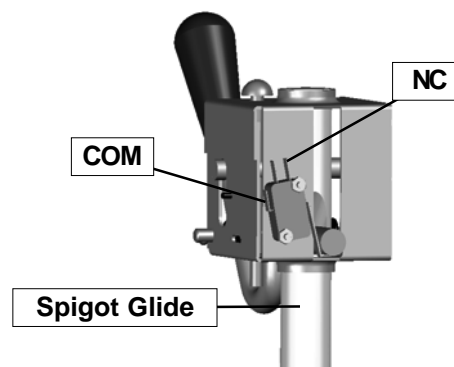

Figure 6-7 Spigot Cam Assembly
2. The clicking sound should be within the first 1/2” of the spigot glide movement (Refer to Figure 6-7). If the switch does not close, an adjustment may be necessary.